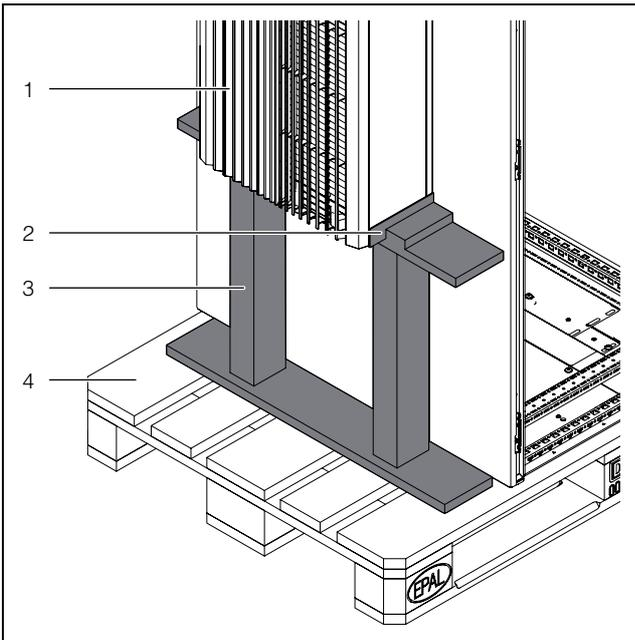
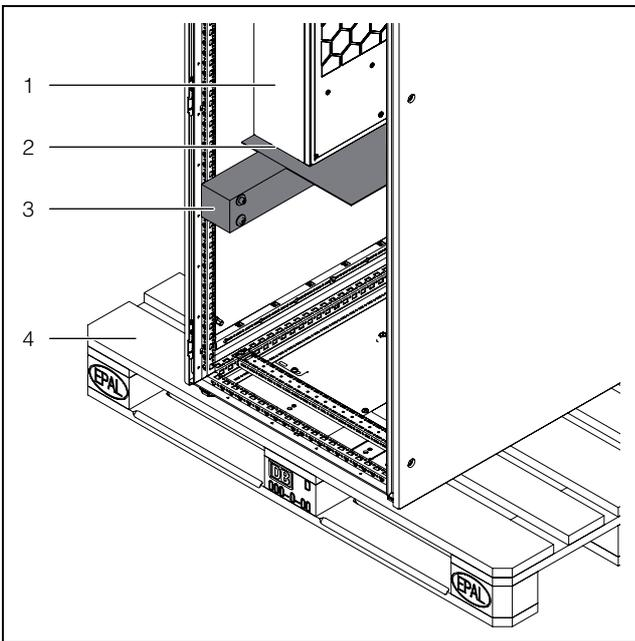

Fig. 5: External mounting of the shipping braces
Fig. 6: Internal mounting of the shipping braces
- Shipping braces (such as a structure made from square timbers or boards) must be used when transporting cooling units already mounted on the enclosure – fig. 5 and fig. 6). These braces support the cooling unit and prevent it from slipping in case of impact. To prevent paint abrasion, please place bubble wrap or similar between the square timbers and the cooling unit.